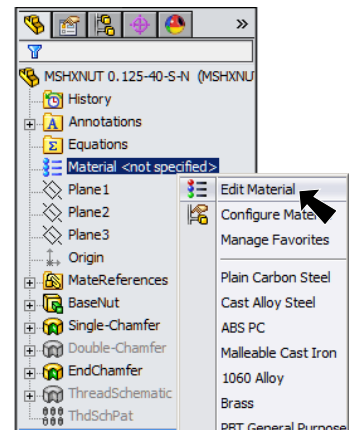

Fig. 4
Step 1. **Right click Material**  in the Feature Manager and click **Edit Material**, **Fig. 4**.